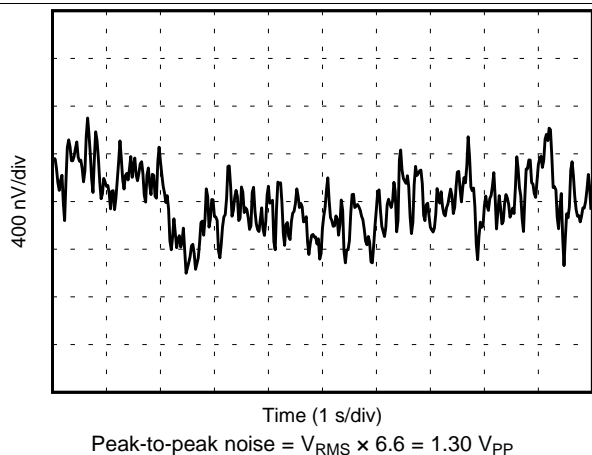

Figure 19. 0.1-Hz to 10-Hz Noise
0.1-Hz to 10-Hz Noise	Figure 19